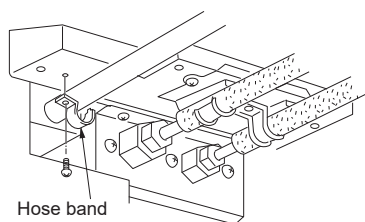
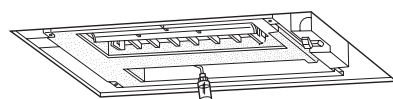

Fig. 5-5
Fig. 5-6
- Connect the drain hose connecting part using adhesive of polyvinyl chloride family before installing the hose band. (Fig. 5-5)
- (A) Indoor unit
- (B) Insulating material (purchased locally)
- (C) Drain hose connecting part
- (D) Drain port (transparent)
- (E) Drain hose (5)
- (F) Drain piping connecting part (with socket)
- (G) Drain pipe (O.D. ø26 (ø1 in.) PVC TUBE)
- (H) Drain piping connecting part
- (I) 60 mm (2-3/8 in.)
- (J) Pipe elbow
- (K) Ceiling
- (L) Max. 850 mm (33-7/16 in.)
5.3. Check of drainage (Fig. 5-6)